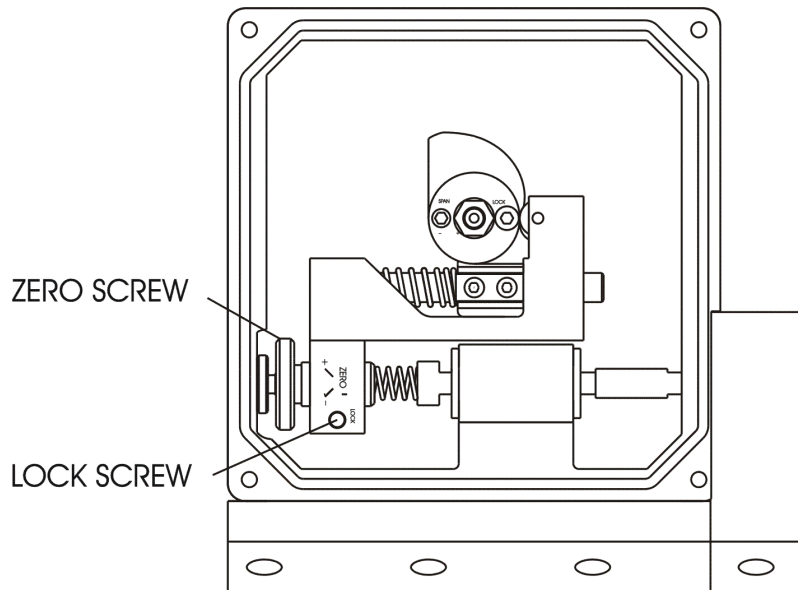

Figure 3-2. Zero Adjustment
Figure 3-2 shows zero adjustment.
2. Turn zero screw (see Figure 3-2) until desired zero position is set.